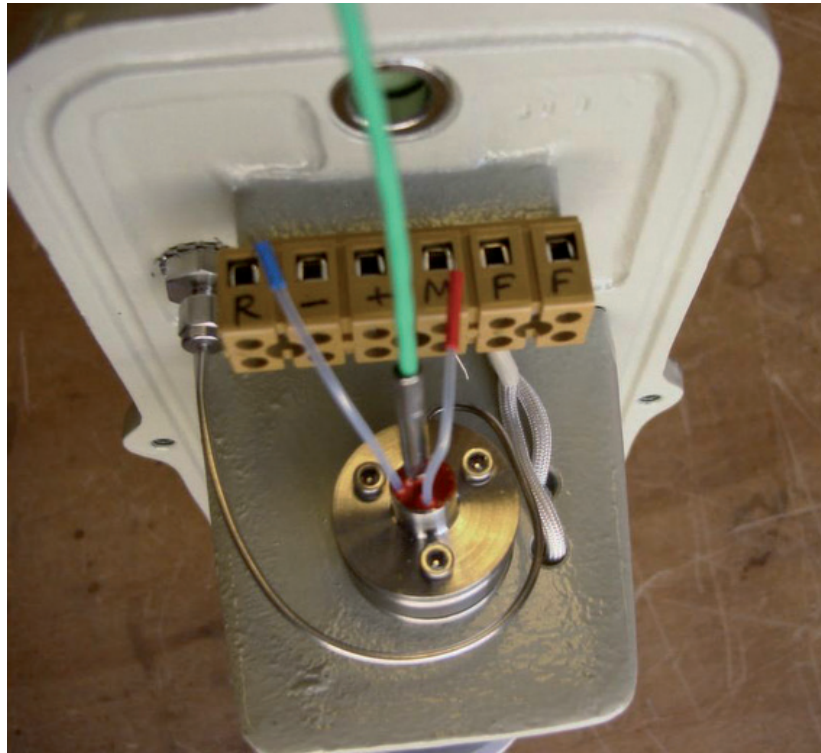

Figure 17 *XZR500 Top View*
- Re-insert the clean sealing head, the new MSRS (Ref 204 011) and new o-rings (Ref 108 006) (see *Figures 17 and 18*).